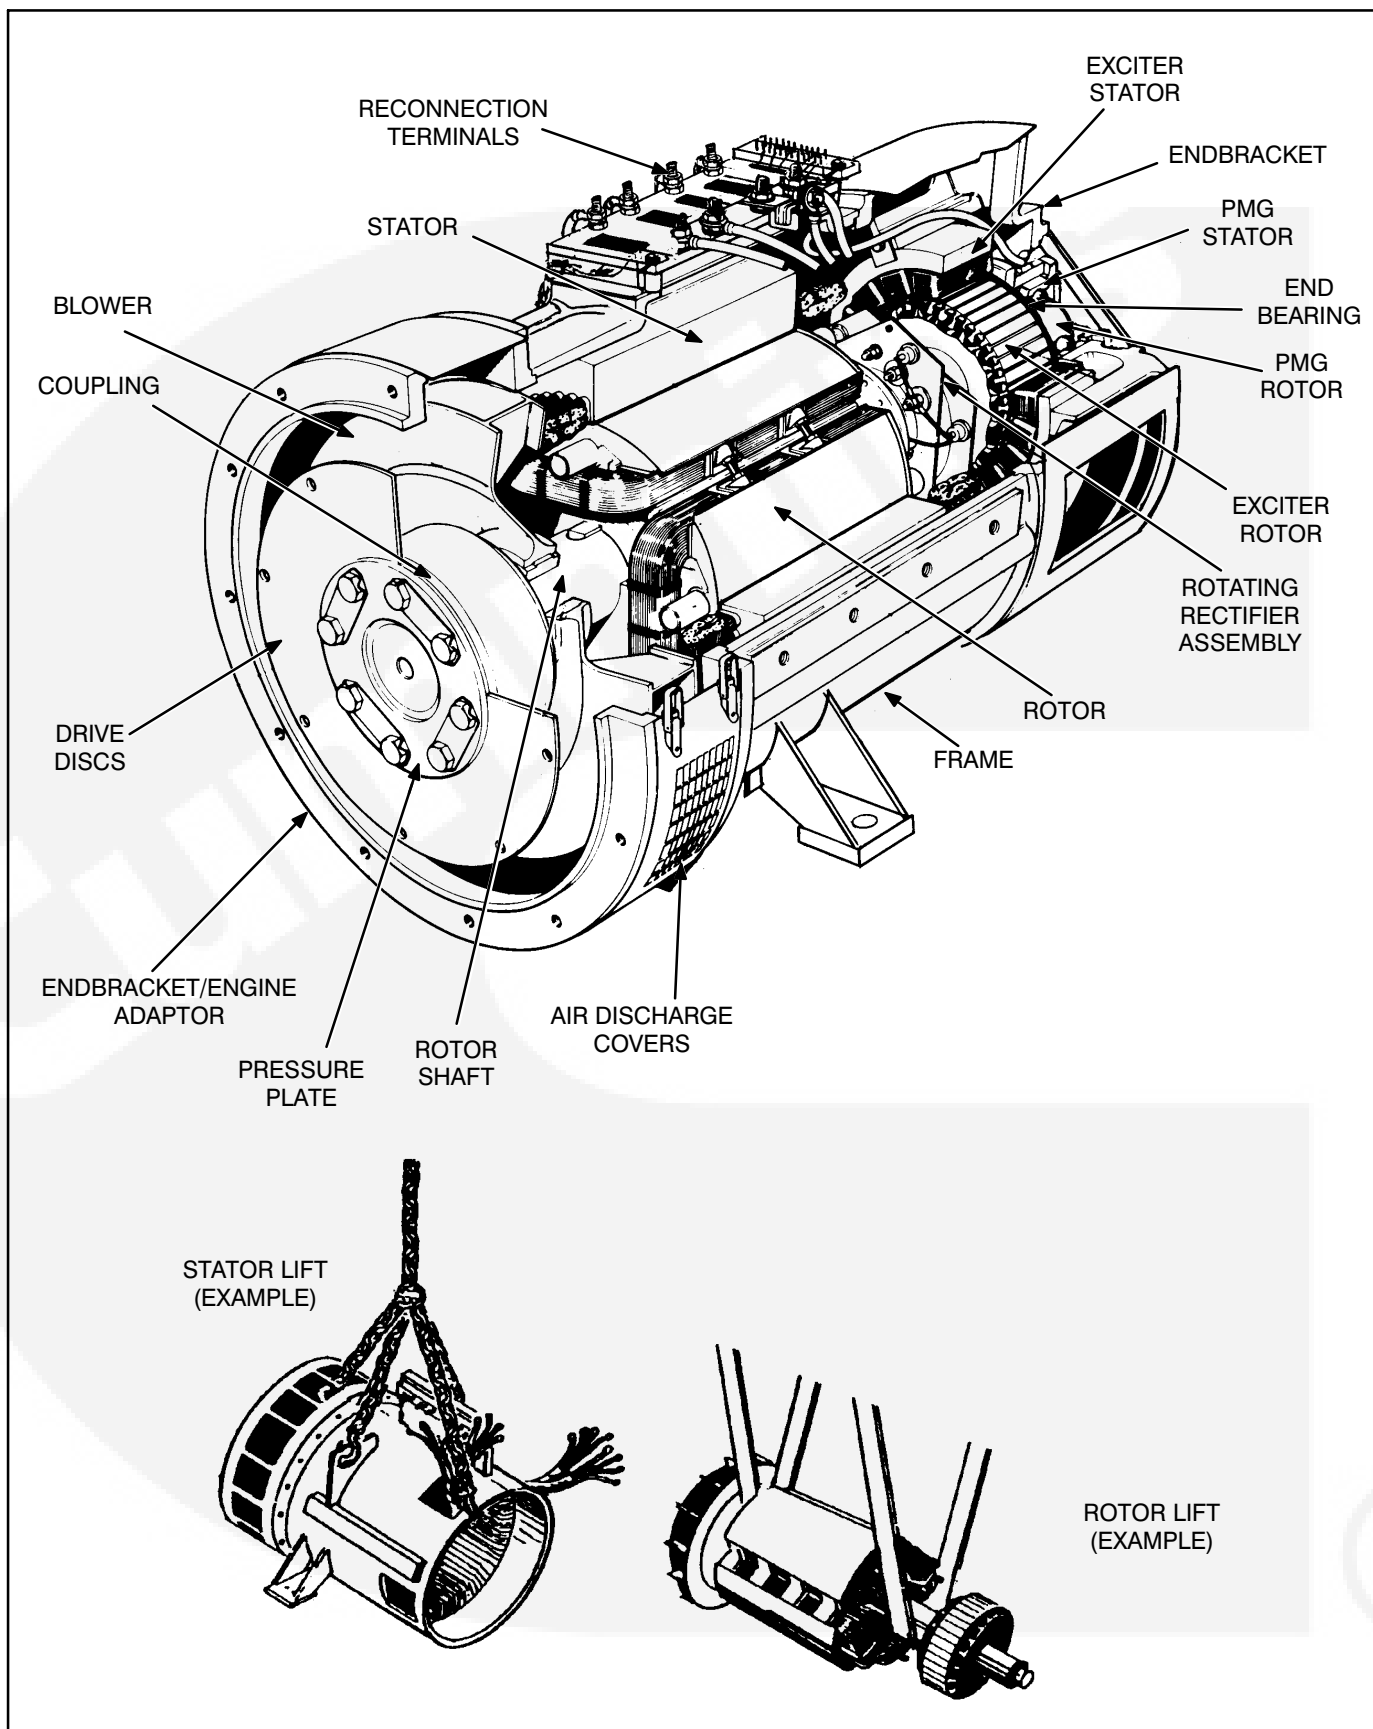

FIGURE 6-14. TYPICAL GENERATOR ASSEMBLY
25. Reposition or add hoist and sling support for the main rotor, and remove the forklift. See Figure 6-14, Rotor Lift detail.